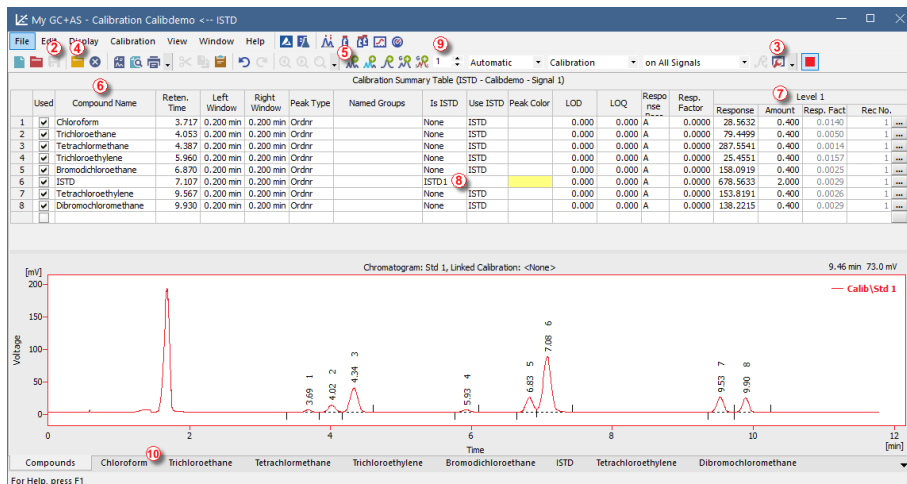

Fig 9: Calibration window - loaded standard
- Only one signal of the chromatogram can be active at a time. The active signal can be recognized from the legend section ① in the upper right corner of the graph (active signal is set in bold), from the icons in the **Overlay** toolbar ② (the active signal has the highlighted icon) or from the graph outline color and table headers color. Values inside the tables change by changing the active signal.
- Change the active signal by double clicking on its name in the legend section ①. Change the color of the currently active signal to another one
- by clicking on the *Not used color*  icon in the *Overlay* toolbar. All parts of the **Chromatogram** window mentioned in the previous step will change color. Return to the former active signal by clicking on its (now raised ) icon in the *Overlay* toolbar ②.
- Click on any row in the *Result table* ③. The peak (or peaks) corresponding to the row you just clicked onto will change color according to the color of the signal. This change will last until the focus in the *Result table* is canceled.
- To add permanent color to the peak, click the *View* button ④ in the right side of the **Results** tab. This will get you to the linked calibration file. There, in the *Calibration Summary Table*, find the *Peak Color* column (see **Fig 9** on pg 20.). In the row corresponding to the peak to be colored select the appropriate color and click *OK*. Return to the **Chromatogram** window by using the  icon in the menu. The selected peak is now colored according to the color selected in the **Calibration** window.
- You can change the integration of peaks by using the interactive icons on the toolbars on the left side of the **Chromatogram** window ⑤ or directly on the **Integration** tab ⑥. Any changes made either way will change the **Integration table** and can be copied to the template method. To do so, click on *Method - Save as Template...* menu comand.
- Check that the **Current Level** field **9** is set to 1 in order to set the calibration level number 1. Use the **Add All** icon (blue) **5** to move all identified peaks to the calibration table. The Calibration table appears in the **Calibration** window, ready to be completed as seen on **Fig 9** on pg 20.
- As it can be clearly seen in the calibration, particular peaks are now identified according to their retention times only. Click and edit the fields in the **Compound Name** column **6** to those seen on **Fig 9** on pg 20. You may also set the peak color for some peak, for example the ISTD peak, in the **Peak Color** column.